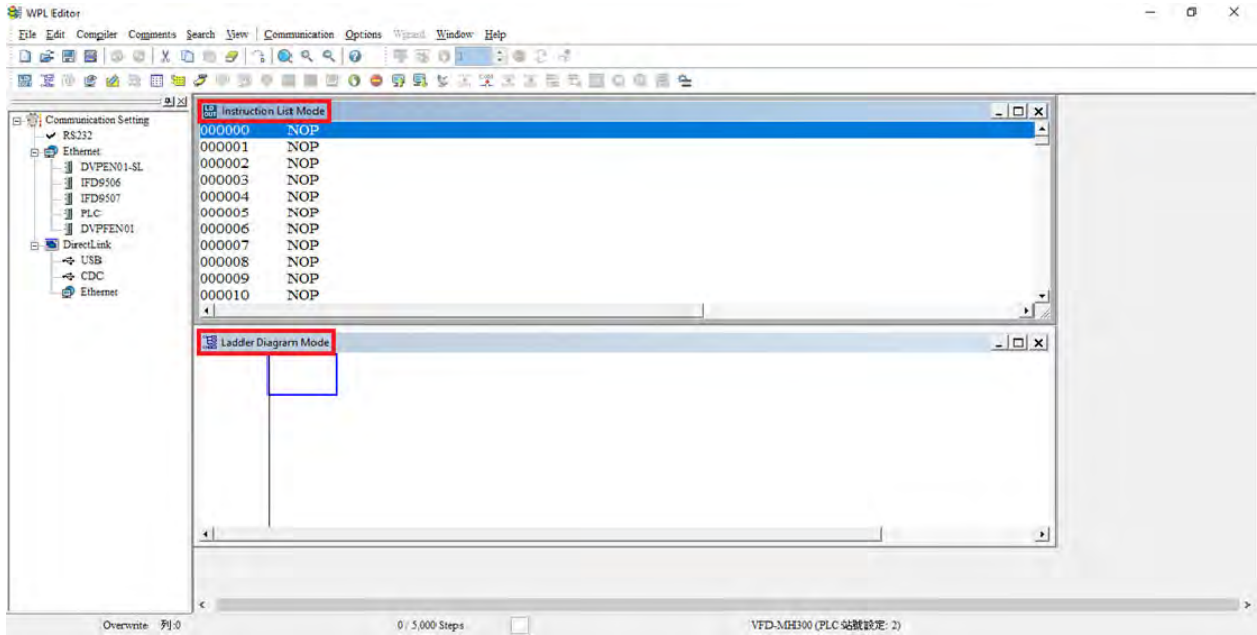

Figure 16-8
Step 5: Press Confirm after completing settings and begin program editing. There are two program editing methods; you can choose whether to perform editing in the command mode or the ladder diagram mode (see figure 16-8 below).